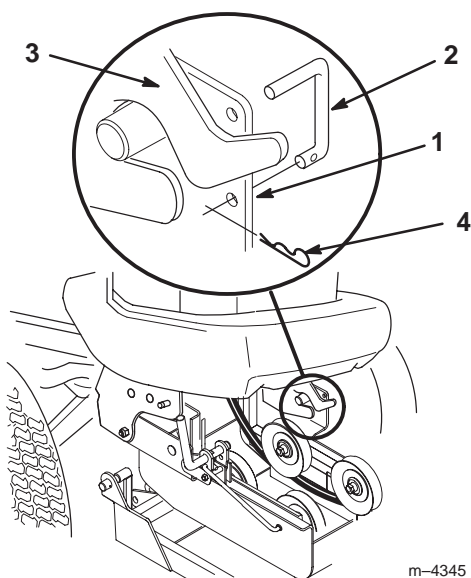

Figure 12
8. Install two C-pins into the locking holes of the pulley box (Fig. 12).
9. Secure the pins with two small hairpin cotters on the inside (Fig. 12).